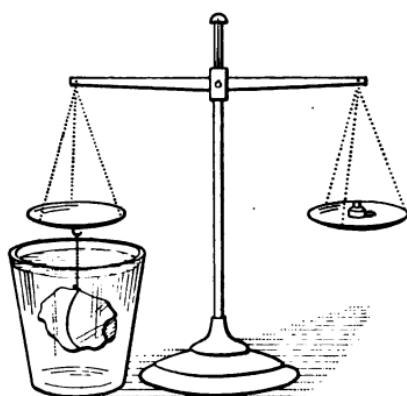

FIG. 33
43. Methods for finding Specific Gravity. — To find the specific gravity of a *solid* body, first weigh it in air, then weigh it immersed in water, as in Fig. 33.